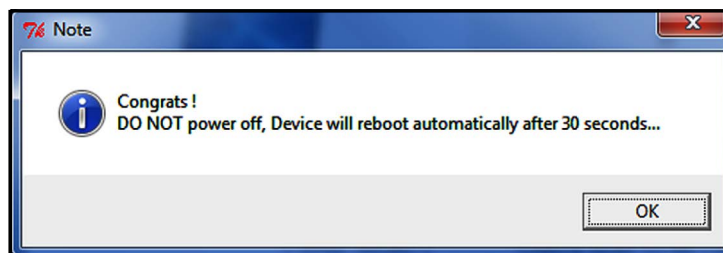

Figure 38: Reboot message
7. After the progress bar indicates that the firmware update is 100% complete (about 10 minutes), the message shown in figure 38 below will be displayed. Note that the AT600 will automatically reboot in 30 seconds.